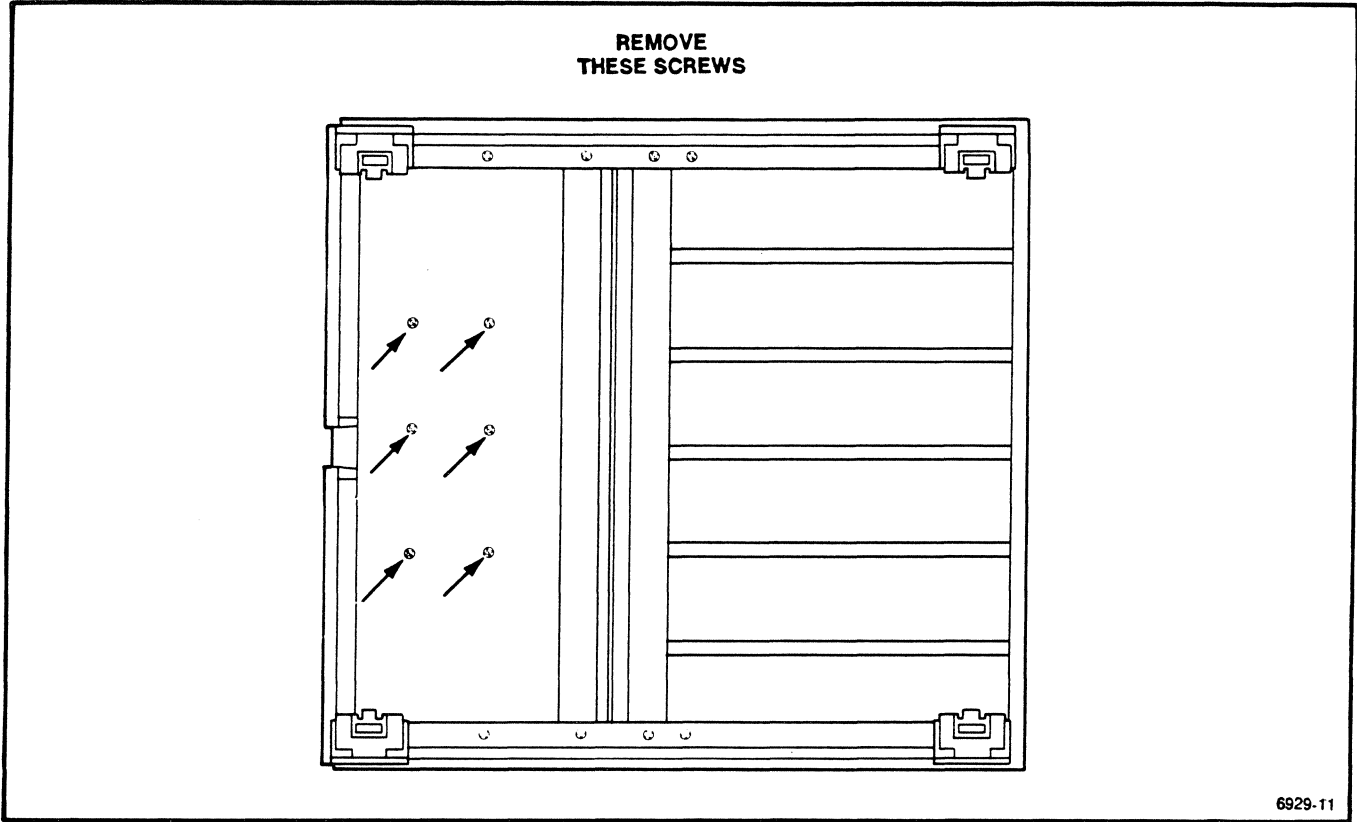

Fig. 3-8. Attaching screws on bottom of mainframe.
3. Remove the six screws that fasten the heat sink (Fig. 3-8) to the chassis, and lift the heat sink out of the unit.